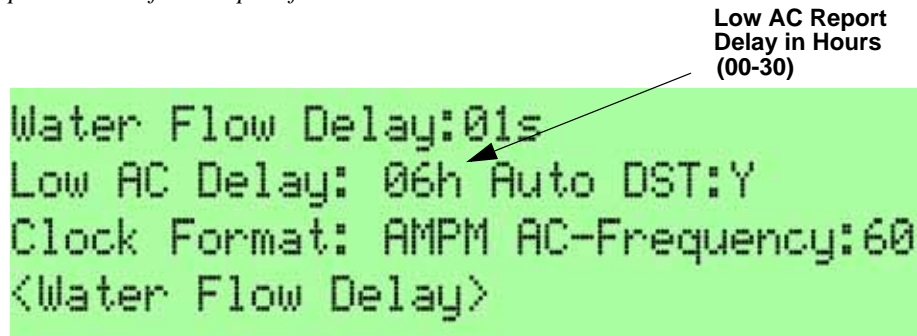

Figure 9-12 Low AC Report Delay Programming Screen
6. Enter the number of hours before a low AC report will be sent to the central station, then press . Refer to Figure 9-12.